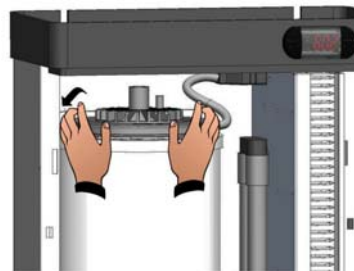

Fig. 30
3. Release the rear fixing spring of the upper steam flange making it slide outside the cylinder (Fig. 30).